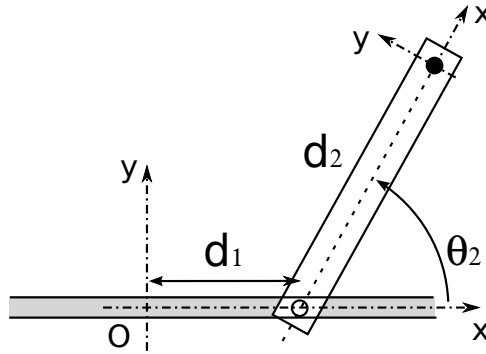

Figure 1: Two DOF planar robot arm.
1. Consider the two-DOF PR planar robot arm given in Figure 1, which consists of a prismatic joint aligned with the x-axis, followed by a rotary joint connected to a link of length d_2 . Derive the forward kinematics to compute the end effector position in O and the associated 2×2 Jacobian matrix.